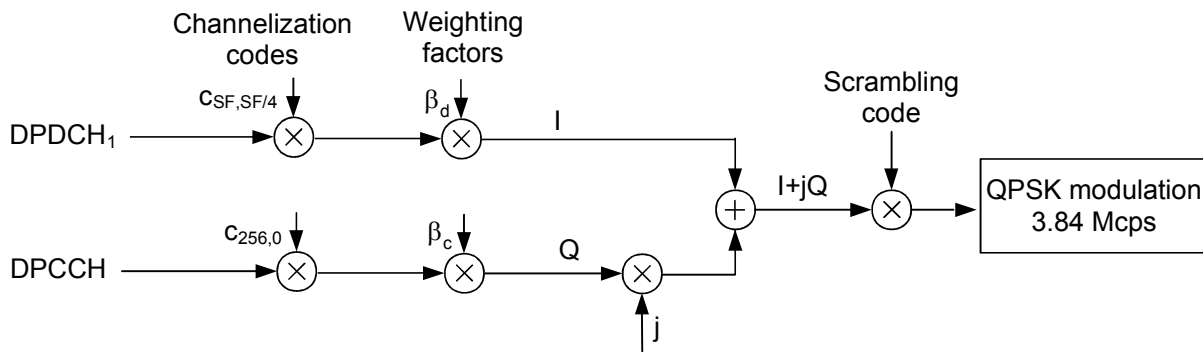
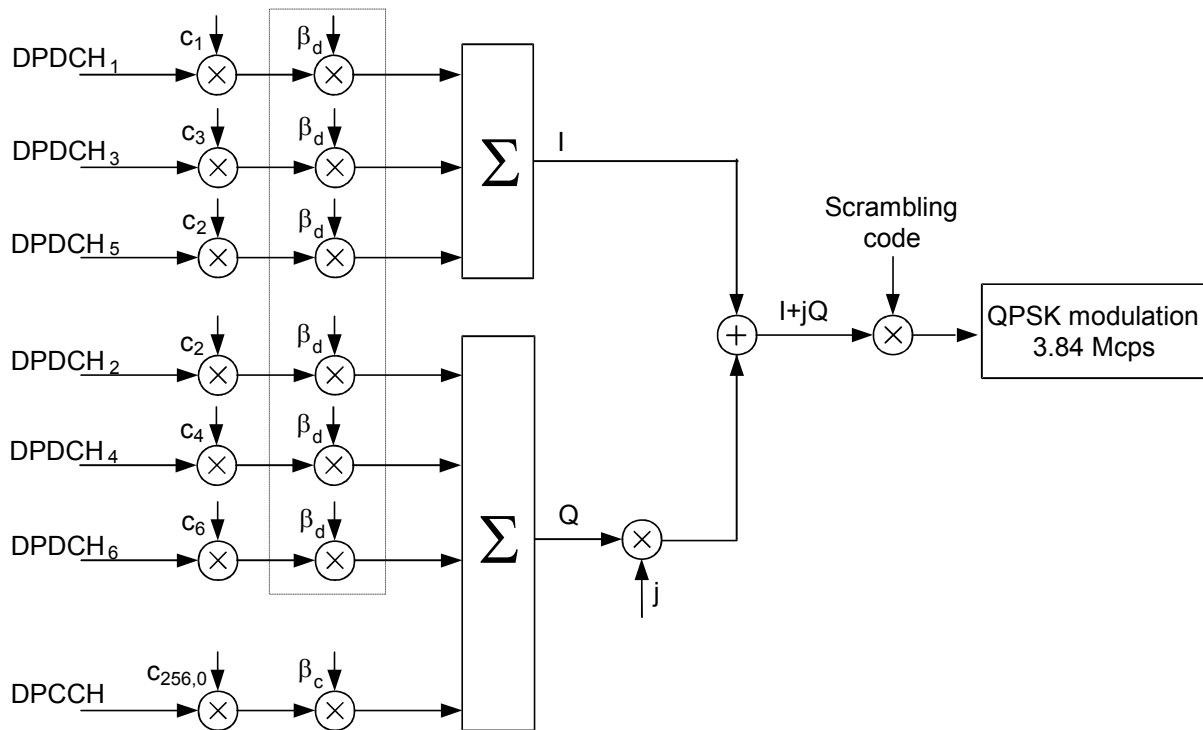

Fig. 4-28 Uplink WCDMA signal with up to 1 data channel
Fig. 4-29 Spreading of the uplink channels
The WCDMA signal is composed of one control channel (DPCCH) and *n* data channels (DPDCH), where *n* is between 1 and 6. The symbols of all channels are first spread to the chip rate by the channelization codes *c*, weighted by gain factors  $\beta$  and summed to form a complex-valued stream of chips. This complex-valued signal is then scrambled by a long or short scrambling code and finally QPSK modulated. For a WCDMA signal consisting of the DPCCH plus one DPDCH, the different spreading and modulation stages are shown in Fig. 4-28 below.
According to the standard, the DPCCCH is always spread with code  $c_{256,0}$ , corresponding to a symbol rate of 15 kbps. In the signal configuration of Fig. 4-28, where one DPDCCH is transmitted, spreading factors of 4, 8, 16, 32, 64, 128 or 256 may be used, and the corresponding DPDCCH channelization codes are  $c_{SF,SF/4}$ . The R&S CMU sets the spreading factor implicitly after selecting the symbol rate for the first DPDCCH. With several DPDCCHs, DPDCCHn is spread by  $c_{4,k}$ , where  $k = 1$  if  $n \in \{1, 2\}$ ,  $k = 3$  if  $n \in \{3, 4\}$ , and  $k = 2$  if  $n \in \{5, 6\}$ . The corresponding signal configuration is shown in Fig. 4-29 below.
The *DPCCH Level* softkey sets the absolute level in dBm of the control part (DPCCH) of the Dedicated Physical Channel (DPCH). According to Fig. 4-29 (see p. 4.58), the levels of the  $n_{ch}$  DPDCH data channels ( $1 \leq n_{ch} \leq 6$ ) in the uplink generator signal are all equal but may be different from the *DPCCH Level*. The sum of all channel contributions must be equal to the *Total TX Power*:
*Dedicated Channel Mode* Configuration of the dedicated channel as a 3GPP uplink (UL) reference channel according to 3GPP TS 25.141 or as a physical channel. The parameters of both channel types are defined in the table sections below.
*Scrambling Code* Type and value of the scrambling code that is used to scramble the uplink WCDMA signal; see Fig. 4-29 on p. 4.58 and background information below. The R&S CMU supports scrambling codes of long type. The scrambling code value must be in the range 0 to FFFFFFF (hex).